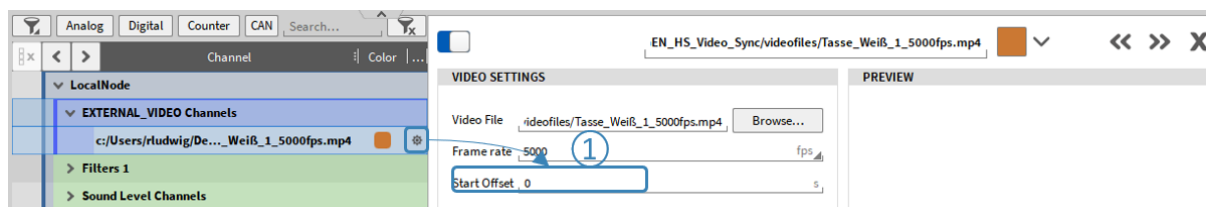

Fig. 7.169: Compensating a deterministic delay between video and sensor data
If the latency between video and sensor data is known it can be compensated by entering the delay in *Start Offset* in the video's channel setup (see ① in Fig. 7.169).